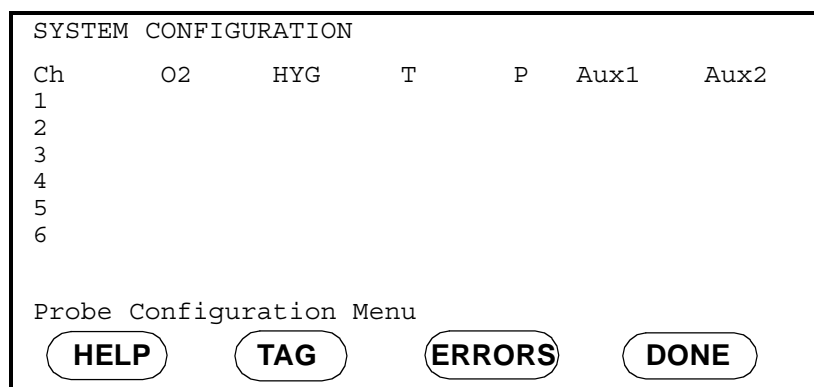

Figure 2-4: Probe Configuration Menu
1. Enter the Probe Configuration Menu. (See Figure 2-14 on page 2-26 for a menu map.) A screen similar to Figure 2-4 appears.